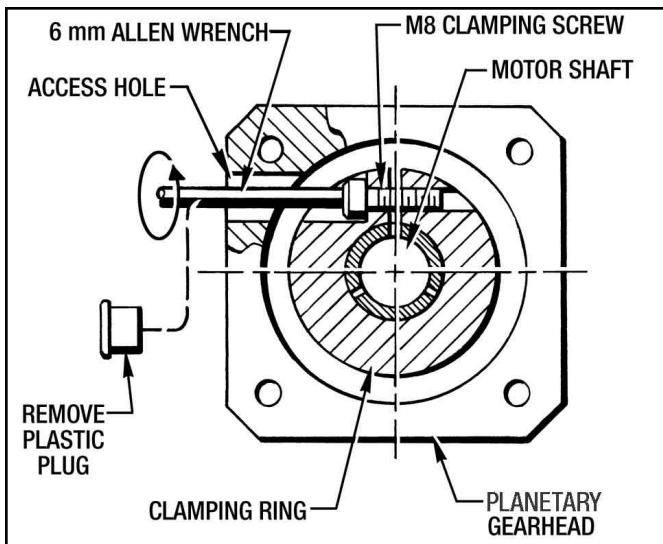

Figure 4.1 - Removing Servo Motor
3. Remove the plastic plug in the access hole in the Planetary Gearhead (#18) motor mounting flange. Rotate the Starwheels until the **Clamping Screw** in the Clamping Ring is aligned with the access hole in the side of the motor mounting flange. (See Figure 4.1).